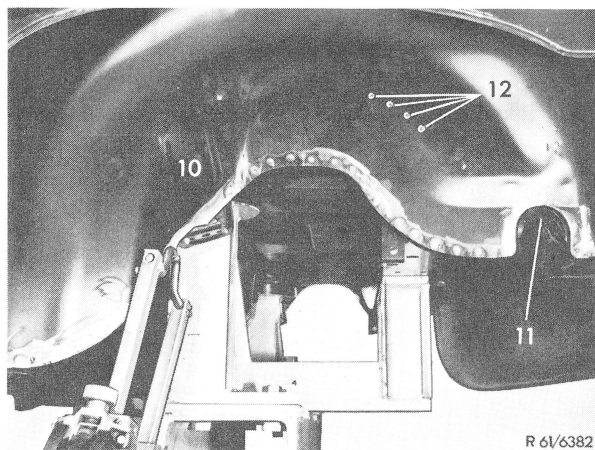

Fig. 7
22 Spot weld wheel housing (10) to side member (11) and plug weld through holes (12) drilled into wheel housing (Fig. 7).